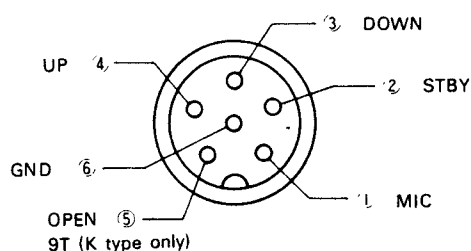

Fig. 18 MIC terminals (view from front panel side)
- Connect MIC connector as shown in Fig. 18.